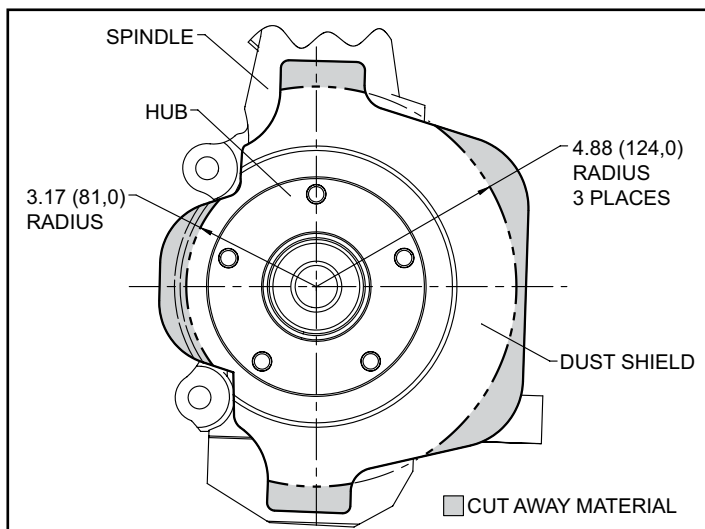

Figure 3. Dust Shield Modification
•The front dust shield needs to be modified (cut) as shown by the dotted lines/shaded area in Figure 3, to clear the new Wilwood rotor and caliper. **NOTE: It is recommended that the dust shield be removed before modification, and the modification be performed by a qualified machine shop.**